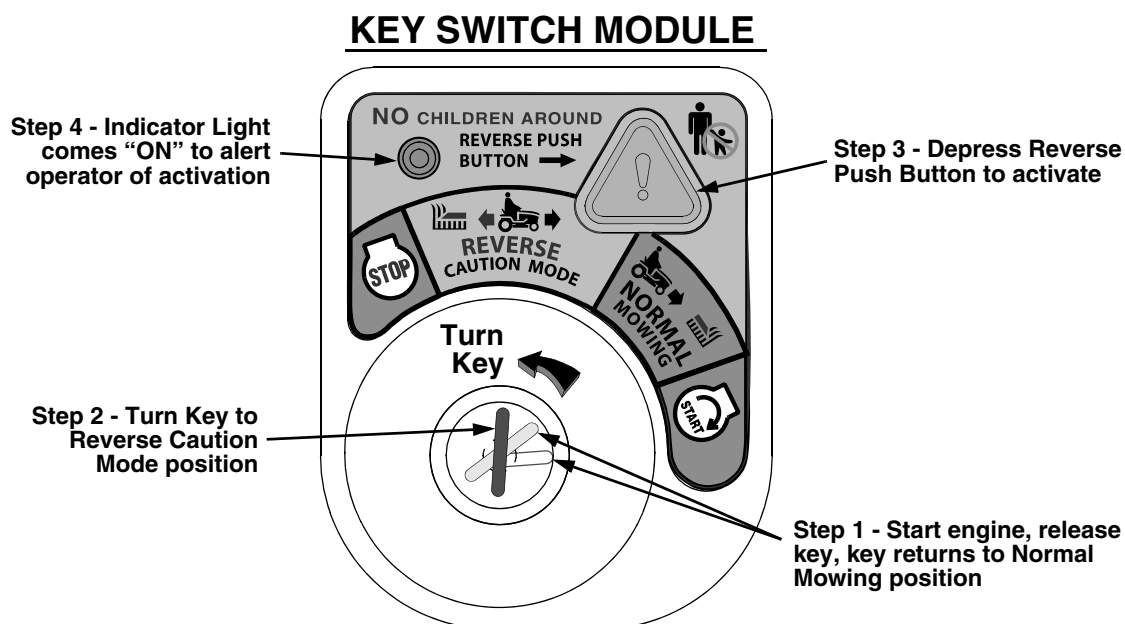

Figure 4-4
2. Turn the key from the “NORMAL MOWING” (Green) position to the “REVERSE CAUTION MODE” (Yellow) position of the key switch module. Refer to Figure 4-4.
3. Depress the “REVERSE PUSH BUTTON” (Orange/Triangular Button) at the top/right corner of the key switch module. The red indicator light at the top/left corner of the key switch module will be “ON” while activated. Refer to Figure 4-4.